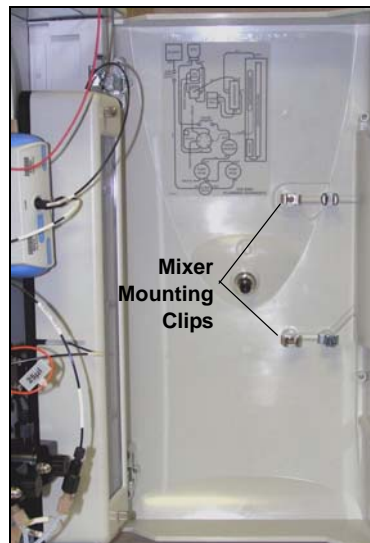

Figure B-88. Location of Mounting Clips for the EGC CO3 Mixer
2. Install the larger diameter mounting clips (P/N 063642) (see Figure B-88).